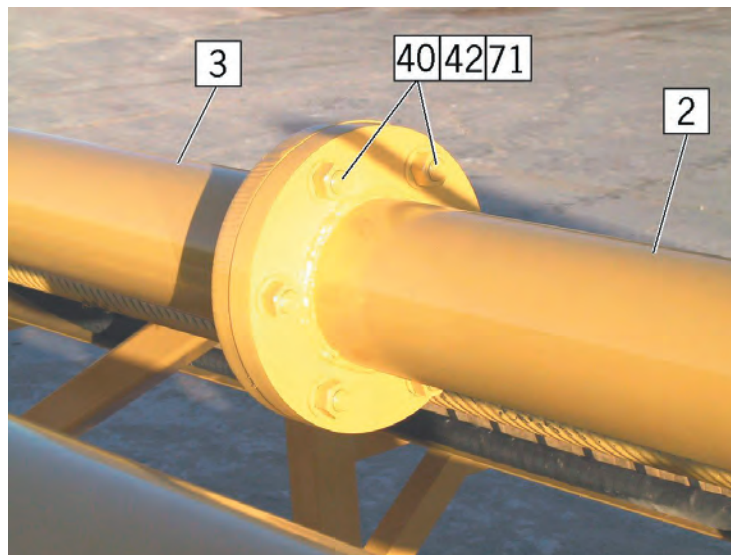

Fig. 6-20 Top Tube & Carousel Support
1. With mast in horizontal position and all pipe removed as described previously, support top tube (3) and carousel pipe support (2) with a suitable lifting device.
2. Mark position of top tube at the joint. Separate the top tube from the carousel pipe support by removing the six capscrews (71) at the joint (fig. 6-20).
3. Remove the safety wire (22), four capscrews (32) and flat washers (43) that hold the end cap (8) to the mounting plate. Remove top tube with end cap.
4. Drive the bearing (14) out of the end cap (8). There is a lip on end cap at top where it bolts to the mounting plate, so the bearing must be driven out the bottom.
7. Tighten all capscrews and torque to standard specifications. Install new safety wire (22) on the end cap capscrews (32).